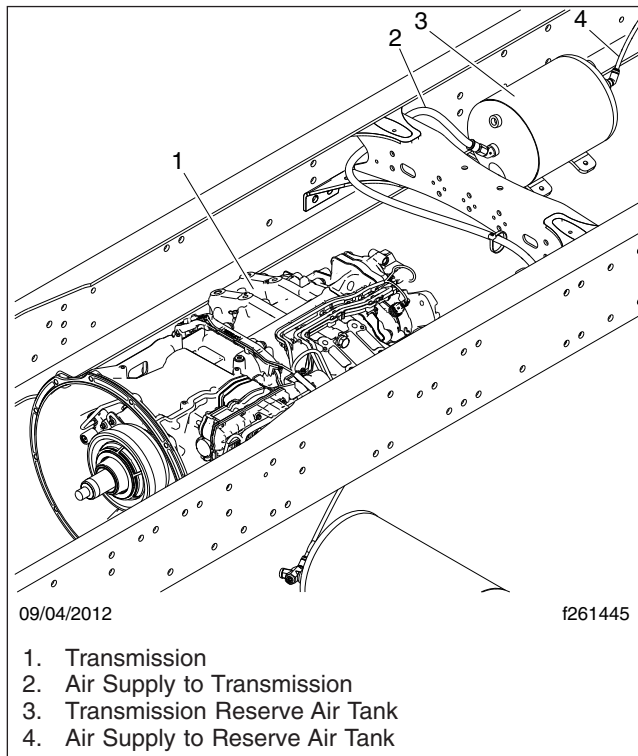

Fig. 5, Isolated Transmission Reserve Air Tank (typical installation)
2. Drain the main air system and the isolated transmission reserve air tank. See Fig. 5.